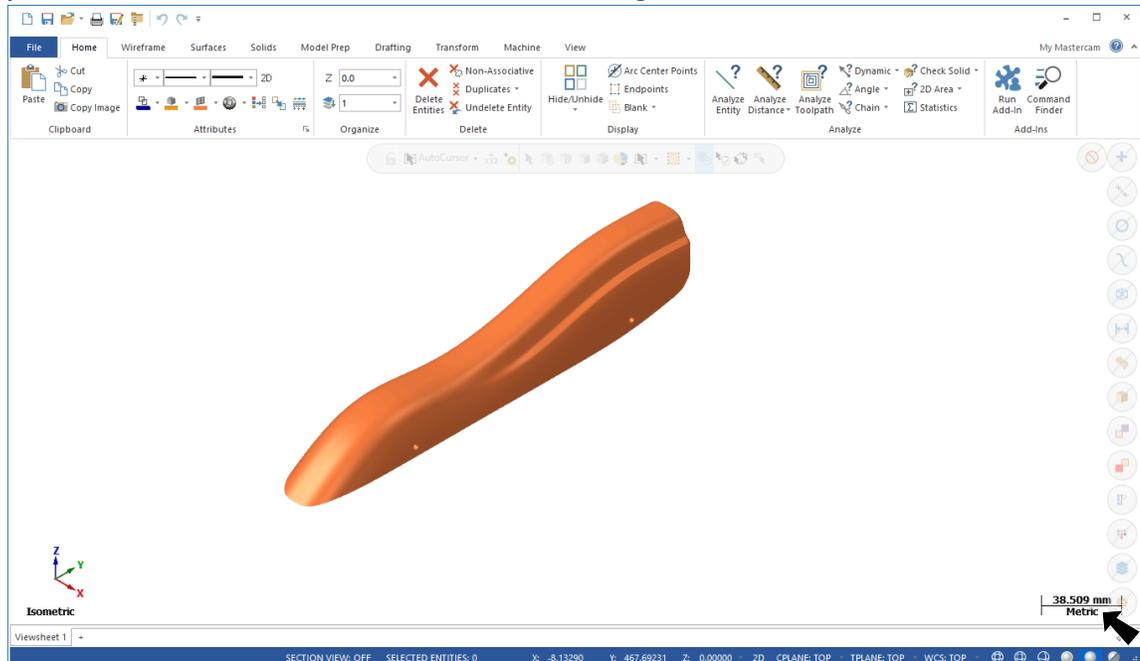

Fig. 2
Step 1. In the bottom right corner of the display confirm units are **Metric**, **Fig. 2**.